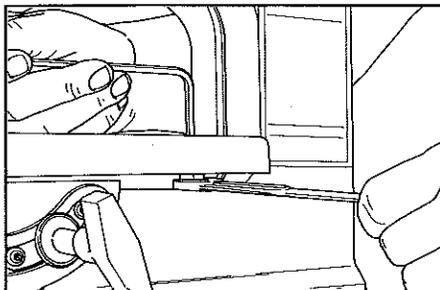

Figure 8. Set the 90° stop.
**9. Set the 90° stop.** With the table set at "0", use a 1/2" open-end wrench to loosen the table stop nut (45). Use a 5/32" Allen wrench to loosen or tighten setscrew (44) as required. (See Figure 8.) Screw should just make contact with frame (12). Tighten stop nut (45).